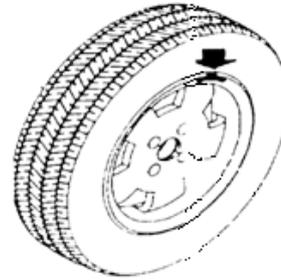

Figure10-2
10.2.4 Slowly rotating wheel, when outside counterweight position indicator light all on, and show “OK”, clip correspond counterweight on 12 o'clock position outside of rim, Figure 10-2;